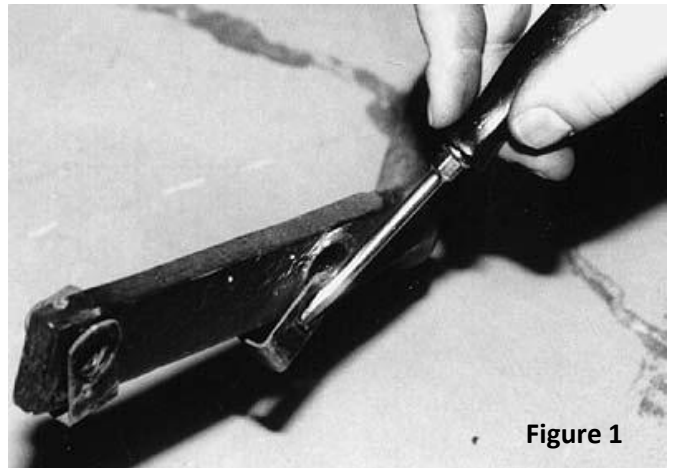

Figure 1
4. Remove the rear sway bar. Remove the clip nuts from the sway bar (see **Figure 1**). Make sure the car is still firmly supported by the jack stands.